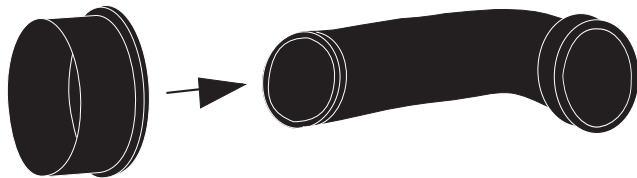

fig. 1
- 4) Install the rubber velocity stack onto the small end of the new intake tube. It will "snap" into place. (see fig. 1)